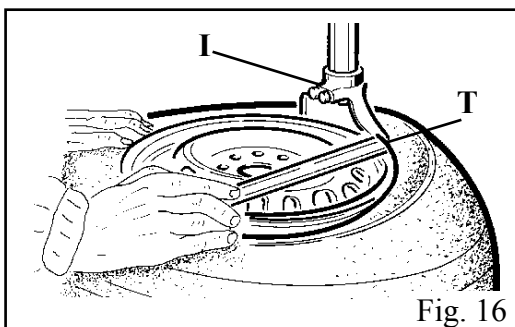

Fig. 16
- With the lever (T) inserted between the bead and the front section of the mounting head (I), move the tyre bead over the mounting head
- Note:** In order to avoid damaging the inner tube, if there is one, it is advisable to carry out this operation with the valve about 10 cm. right of the mounting head. (Fig. 16)